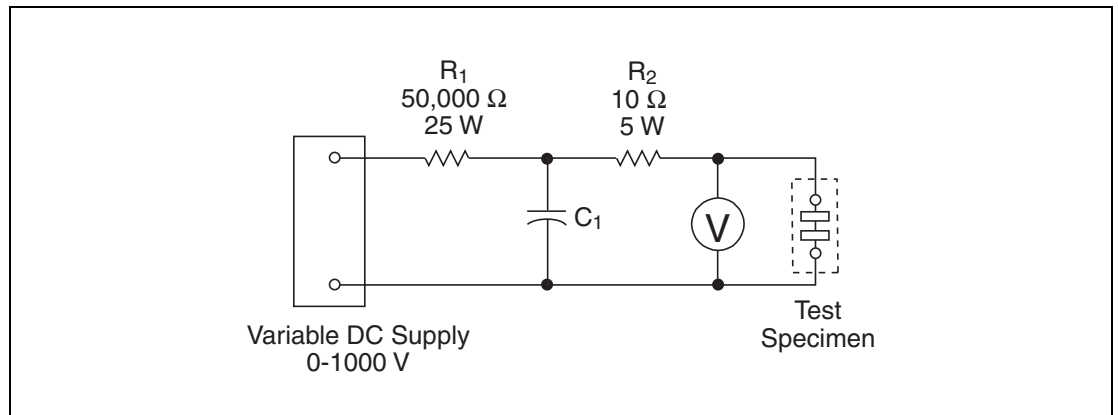

Figure 4.10 UL 497A Breakdown Voltage Measurement Test
2. Breakdown Voltage Measurement Test — Secondary protectors must break down within $\pm 25\%$ of the manufacturer’s breakdown rating when tested in each polarity with a rate of voltage rise no greater than 2000 V/s. The secondary protector is to be mounted in accordance with the manufacturer’s installation instructions and then subjected to the test circuit shown in Figure 4.10. This requirement applies only to secondary protectors connected between Tip and Ring or Tip/Ring and Ground of the telephone loop.